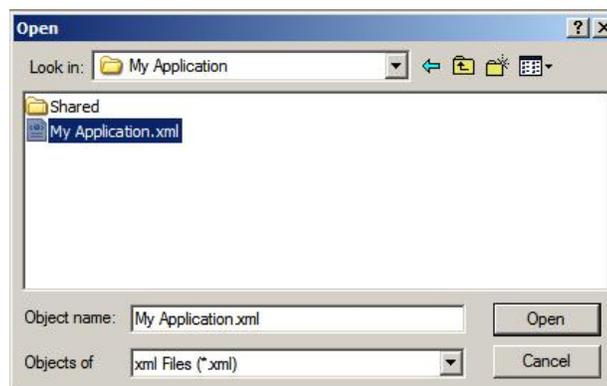

Figure 9. Opening My Application.xml
2. Navigate to the folder that contains the SMAC Codebase 1.0.4 Accelerometer project and open it. In this example, the file solution name is `My Application.xml` (Figure 9).